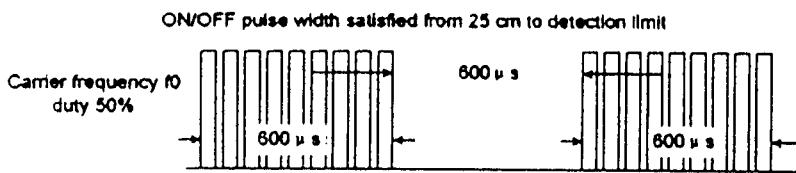

Fig 5. Burst wave
- (1) Measuring place .....Indoor without extreme reflection of light.
- (2) Ambient light source... Detecting surface illumination shall be 200±50Lux under ordinary hite fluorescence lamp of no high frequency lighting.
- (3) Standard transmitter ... Burst wave indicated in Fig 6. of standard transmitter shall be arranged to 50mVp-p under the measuring circuit specified in Fig 5.